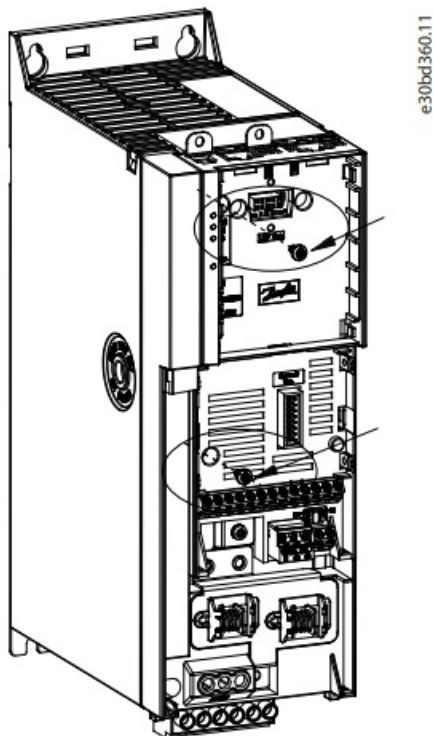

Figure 4: Tighten Screws
4. Fasten the control cassette on the drive using 2 screws (supplied) as shown in Figure 4. Tightening torque: 0.7--1.0 Nm (6.2-8.8 in-lb).